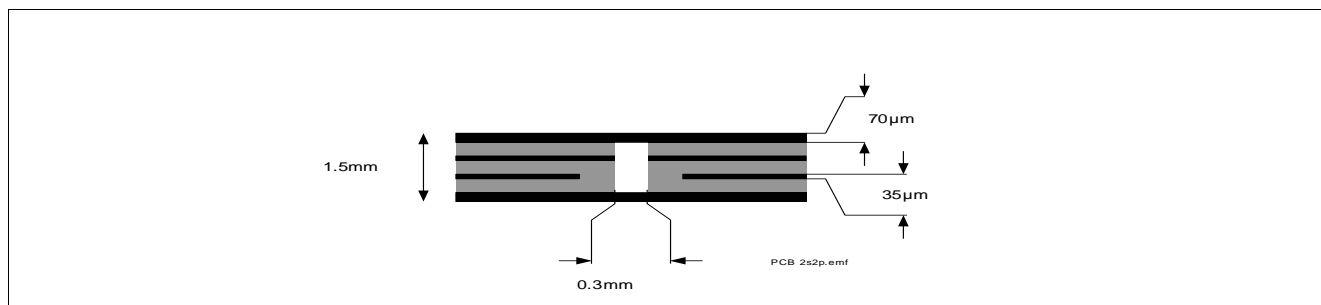
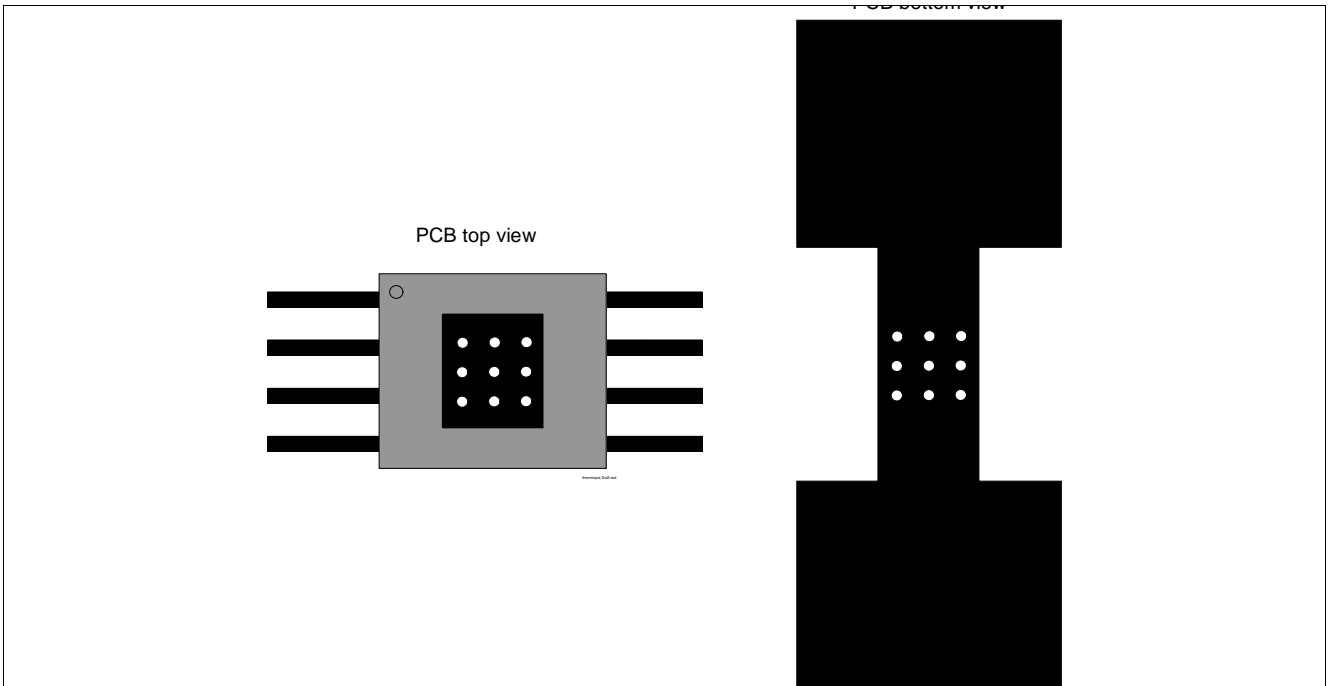

Figure 4 2s2p PCB Cross Section
Figure 5 PC Board Top and Bottom View for Thermal Simulation with 600mm2 Cooling Area
2) Specified  $R_{thja}$  value is according to JEDEC JESD51-2,-5,-7 at natural convection on FR4 2s2p board; The product (chip + package) was simulated on a 76.4 x 114.3 x 1.5 mm board with 2 inner copper layers (2 x 70µm Cu, 2 x 35 µm Cu). Where applicable, a thermal via array under the exposed pad contacts the first inner copper layer. Please refer to Figure 4 and Figure 5.